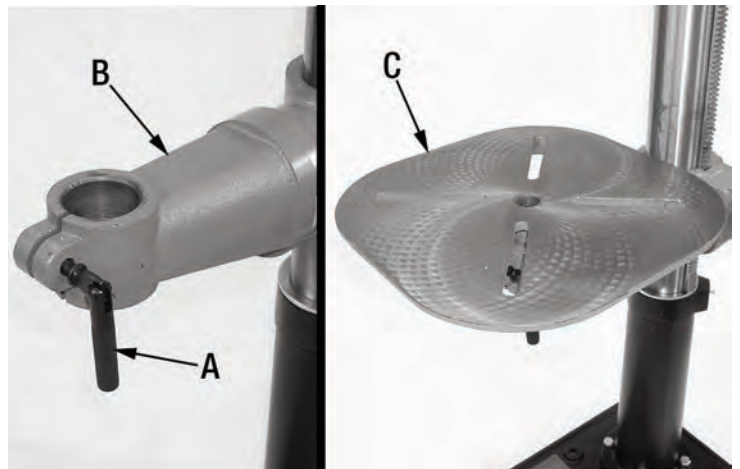

FIGURE 10
- 11) Install the table lock handle (A) Fig.10 to the table support (B) as shown. Do not tighten.
- 12) Slide the table (C) Fig.10 into the opening of the table support. Tighten table lock handle (A).